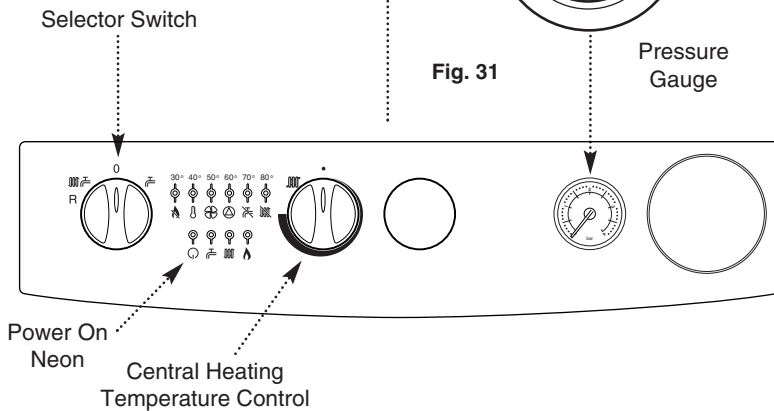

Fig. 32
8. If at any time during commissioning it is required to terminate a particular cycle, e.g. the pump overrun period, turn the selector to the Off position and then back to the On position (  ) (Fig. 32).